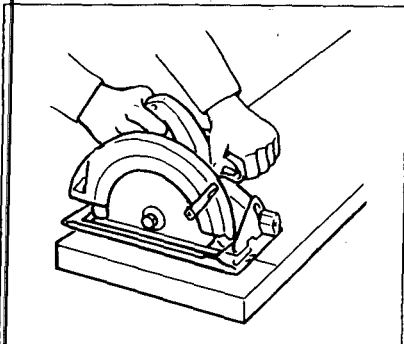
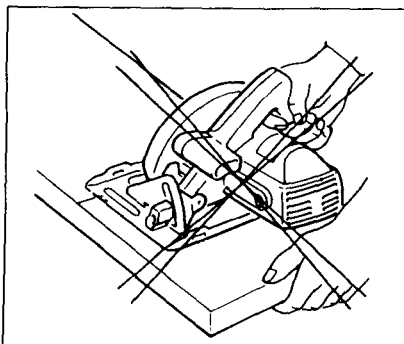

Fig. 5
Fig. 6
15. Place the wider portion of the saw base on that part of the workpiece which is solidly supported, not on the section that will fall off when the cut is made. As examples, Fig. 5 illustrates the RIGHT way to cut off the end of a board, and Fig. 6 the WRONG way. If the workpiece is short or small, clamp it down. **DON'T TRY TO HOLD SHORT PLACES BY HAND!**